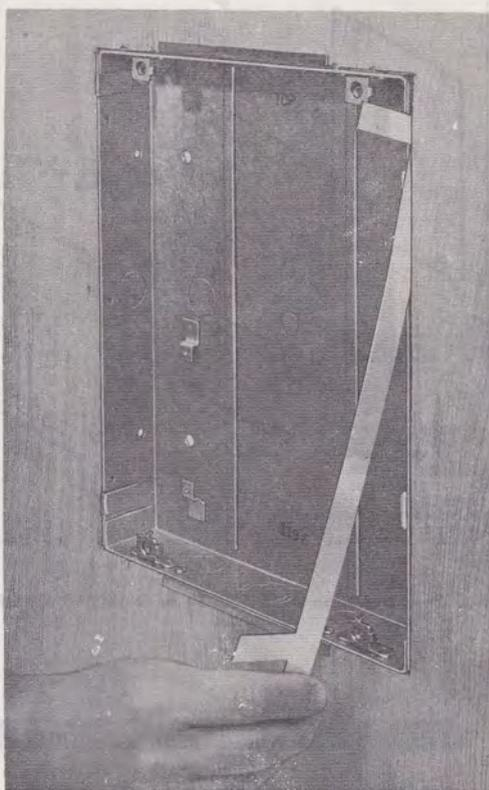

Fig. 5—Installation of Clips from D-179941 Kit of Parts on 113E Apparatus Box
- (3) Insert the clips between the side of the box and the edge of the hole in the wall (Fig. 5). The end of the clip with tab farthest from the end is installed first, and in the top of the opening.